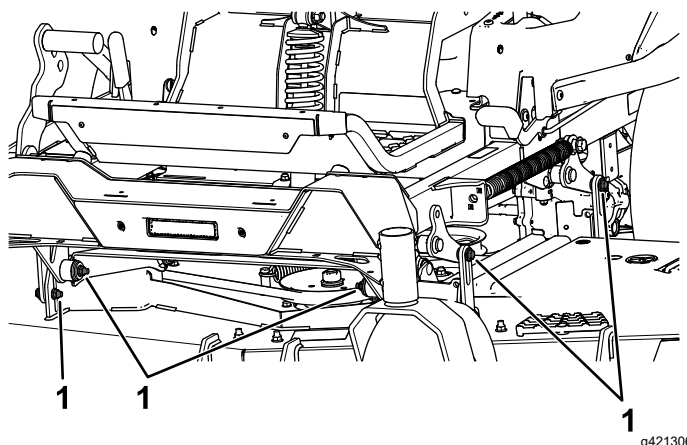

Figure 109
7. Remove and retain the bolts and nuts on both sides of the machine (Figure 109).